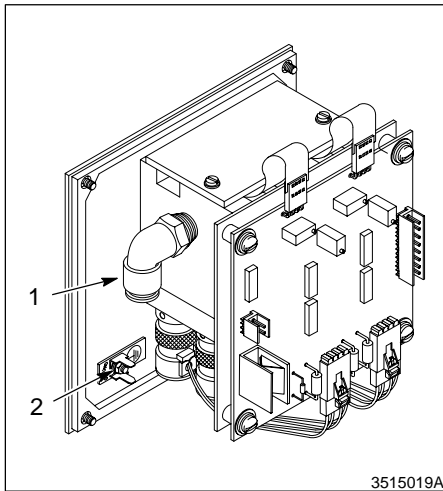

Fig. 3 Voltage-to-pressure regulator
6. See Figure 3. Connect the blue, 10-mm air tubing from the air manifold fitting to the input air fitting (1).
7. If there is not already a ground wire harness going to the new voltage-to-pressure regulator, use the ground wire harness in this kit. Connect the ground wire harness between the door's ground stud and the voltage-to-pressure regulator ground stud terminal (2).
1. See Figure 3. Cut and connect the 6-mm black tubing to the air line connector (1) for the flow air output and the 6-mm blue tubing to the air line connector (2) for the atomizing air output from the voltage-to-pressure regulator to the appropriate 10-tube connectors.